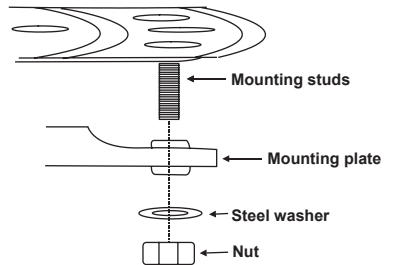

Figure 6
4. MOVE FAN INTO POSITION over the four mounting studs and secure with the provided washers and nuts. (Fig. 6)